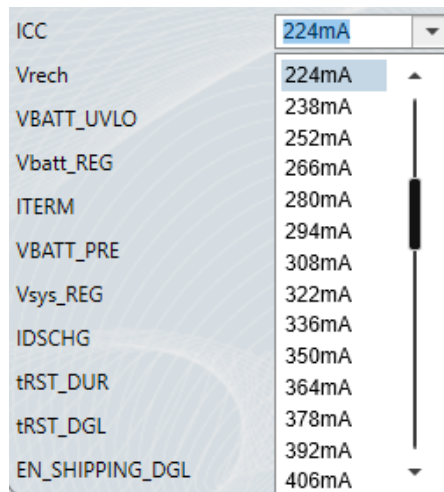

Figure 8: Fast Current Charge Setting
- Figure 8 shows the fast charge current setting. Set the fast charge current to 224mA (the range is 16mA to 896mA).